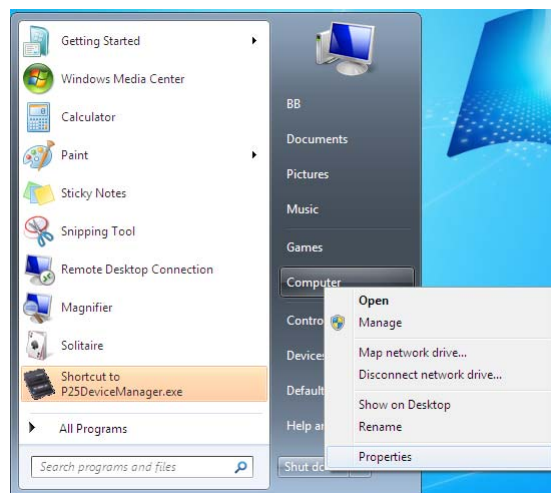

Figure 62
- a. Select **Computer** from the start menu, right click as Figure 62.